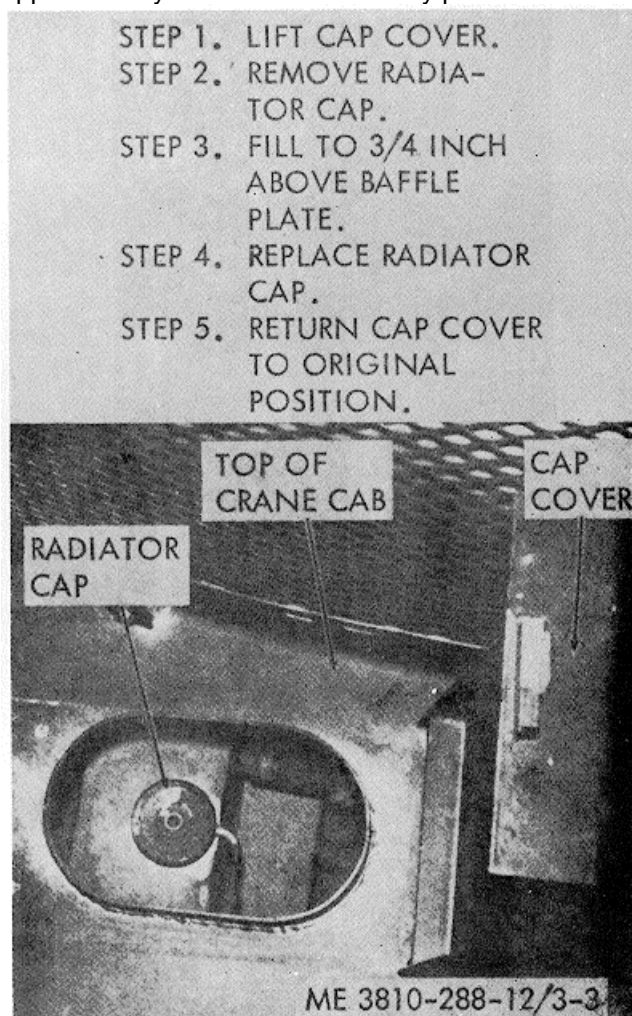

Figure 3-3. Radiator service.
a. Refer to figure 3-3, and service the radiator. Add clean water to bring the level to 1/8 inch above the baffle plate, if necessary.